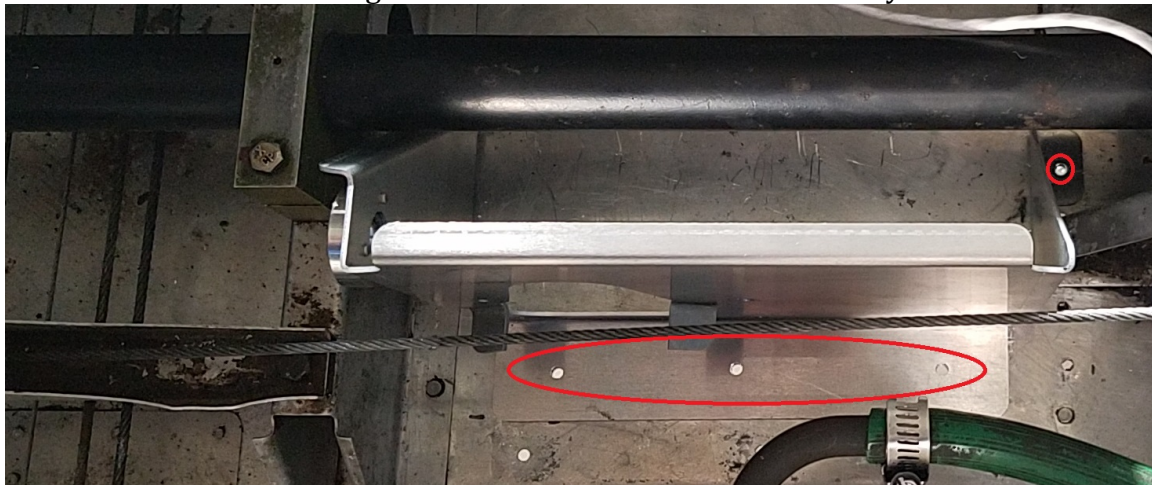
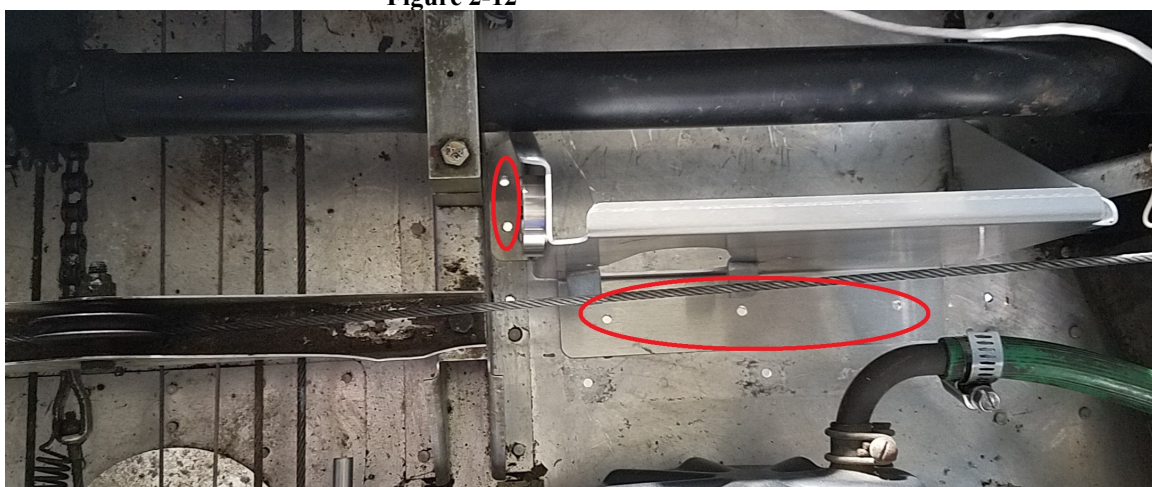

Figure 2-12
Figure 2-13
- 1.21. Drill 6 #18 holes through the lower flanges of the PA-28 roll bracket assembly (P/N 7200-102) and the lower fuselage in the areas shown in Figure 2-12 and Figure 2-13. When drilling holes in the front flange do not align the holes with the lower servo mounting holes in the PA-28 roll bracket assembly (P/N 7200-102). Also avoid drilling in the an area that will interfere with the capstan. Drill holes on the lower left and right flanges on the existing rivet lines. This step may require removing rivets in which case the rivet holes should be enlarged to #18 and match drilled on the roll bracket assembly. If an autopilot servo has previously been mounted in this area it may be applicable to match drill the bracket to the existing holes in